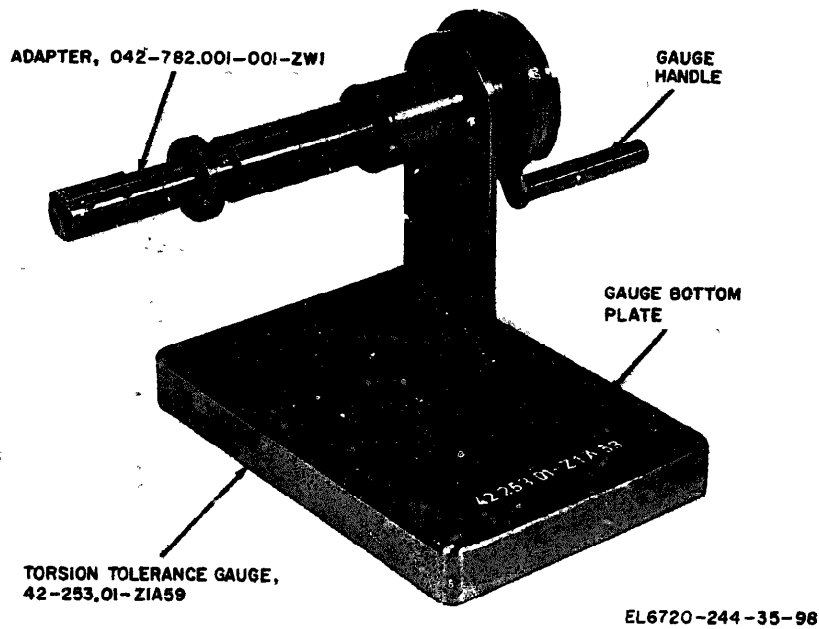

Figure 6-18. Equipment for camera takeup spool friction measurement.
b. Test Equipment (fig. 6-18).
(1) Torsion tolerance gauge 42-253.01-Z1A59.
(2) Adapter for torsion tolerance gauge 042-782.001-001-ZW1,